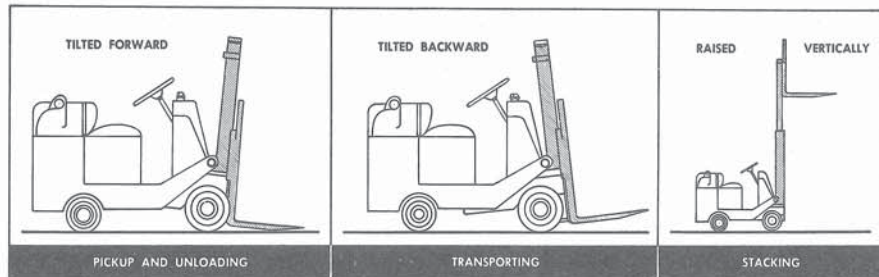

Fig. 4. Lift Equipment Operating Positions
**Pickup of Load.** (Figure 4). Aline truck with load and adjust fork position to balance the load to be picked up. With mast vertical or tilted backward slightly, lower forks and load. **NOTE:** If picking up a drum or cylindrical object flush with ground, tilt forks until tips touch the ground. Operate vehicle slowly forward until load touches carriage. Tilt mast backward, then raise carriage to lift load about 10 inches.
**Transporting Load.** (Figure 4). With lift and control levers in neutral position, drive vehicle to desired location. **CAUTION:** Watch for overhead obstruction that mast cannot clear.
**Depositing Load.** (Figure 4). When the desired location has been reached and the load is raised or lowered to the desired height, tilt mast slightly forward. Drive vehicle forward, placing load in final position, then lower forks until they are free and back vehicle away.